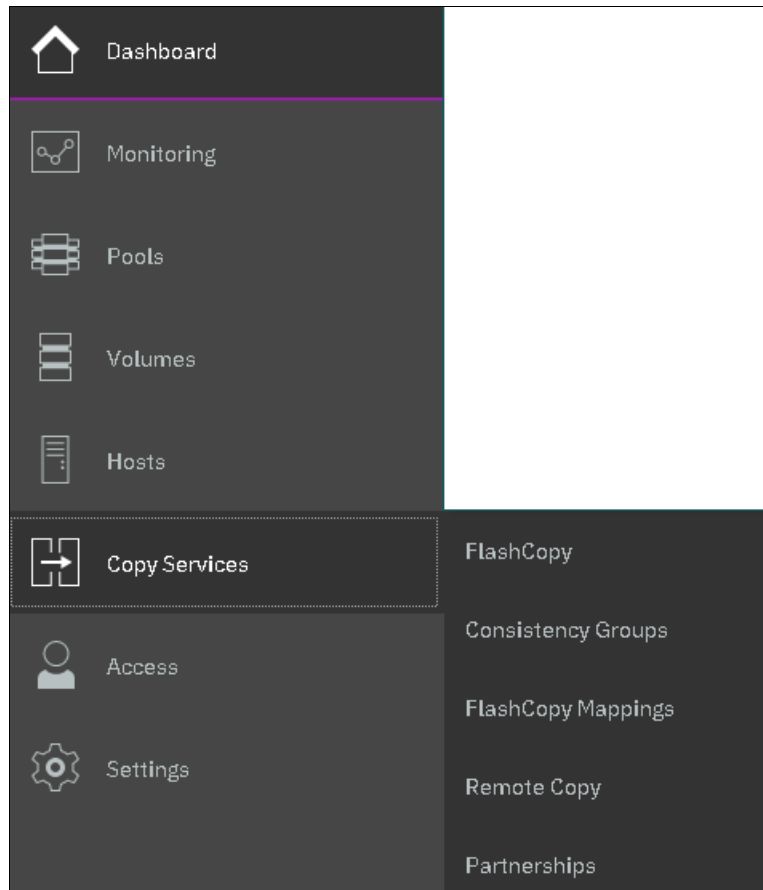

Figure 10-10 FlashCopy panel
- Open the GUI and move the mouse pointer over Copy Services menu and click FlashCopy, as shown in Figure 10-10.